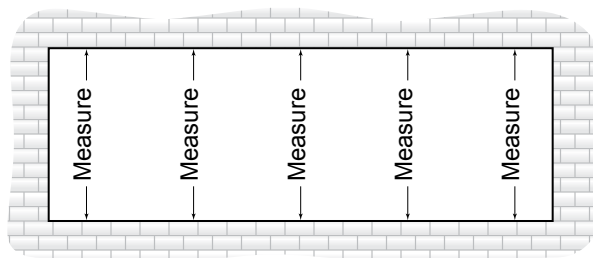

Fig. 24.3
- D. Measure the height of the opening (Rough Opening) at several points along the entire width of the opening. Select the smallest of these dimensions and subtract 1" to allow a minimum of 1/2" at sill and head for shim and caulking. **SEE Fig. 24.3.**